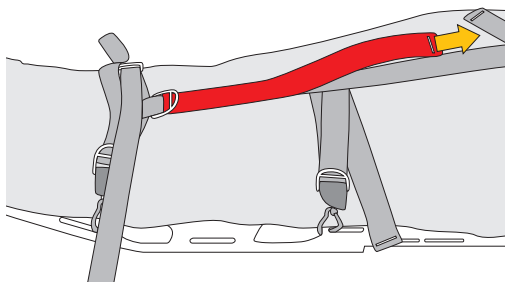

Fig.14
e) conclude the immobilisation by using the longitudinal lock (fig. 14),